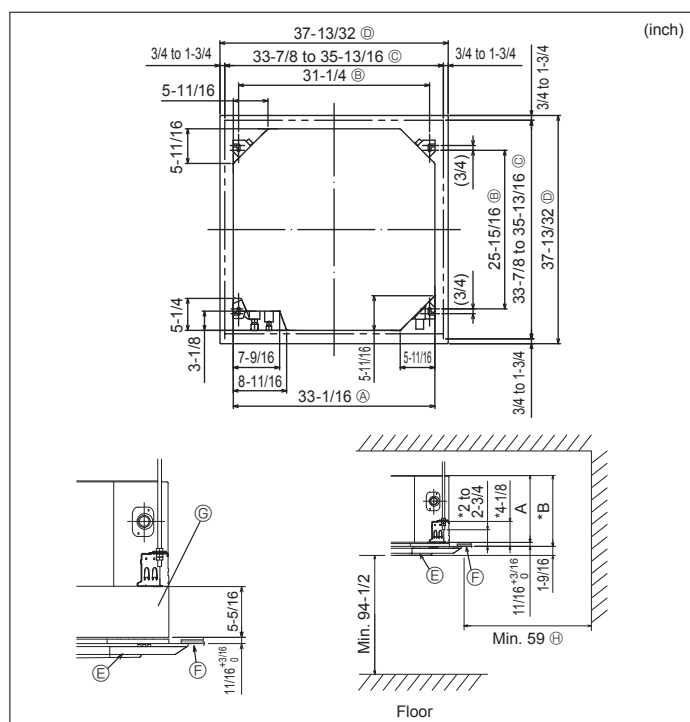

Fig. 3-2
3.2. Ceiling openings and suspension bolt installation locations (Fig. 3-2)
- * The dimensions of ceiling opening can be regulated within the range shown in Fig. 3-2; so center the main unit against the opening of ceiling, ensuring that the respective opposite sides on all sides of the clearance between them becomes identical.